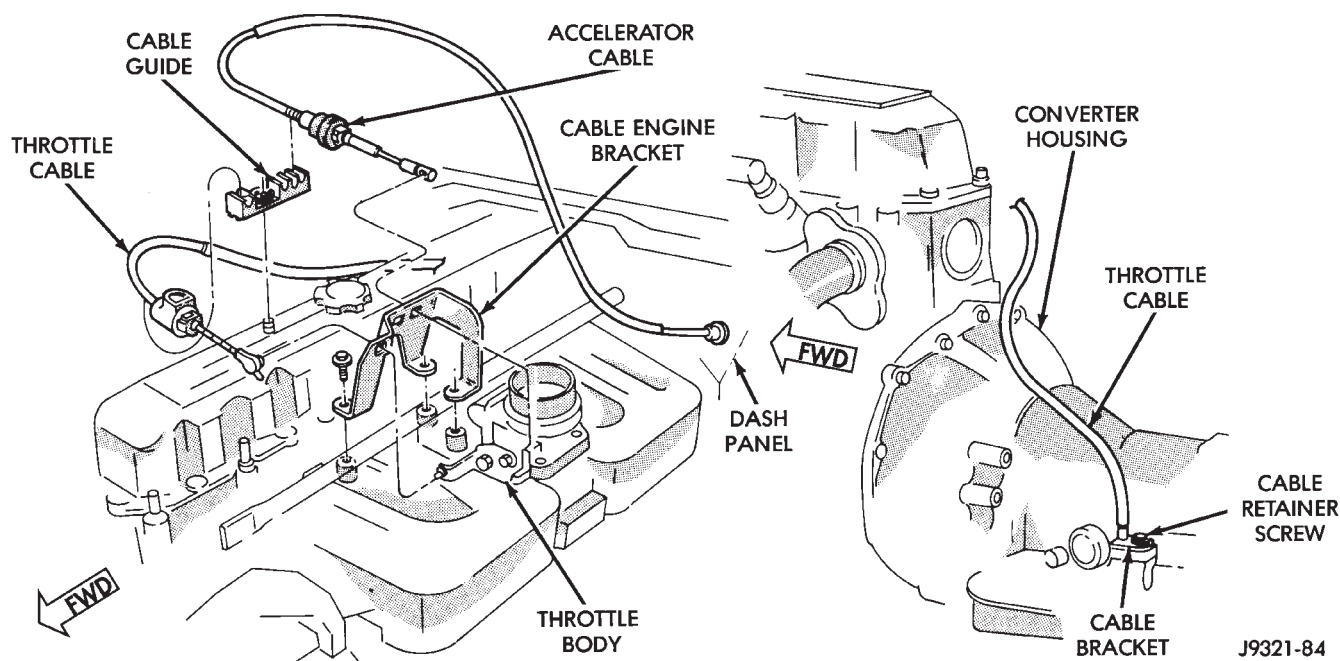
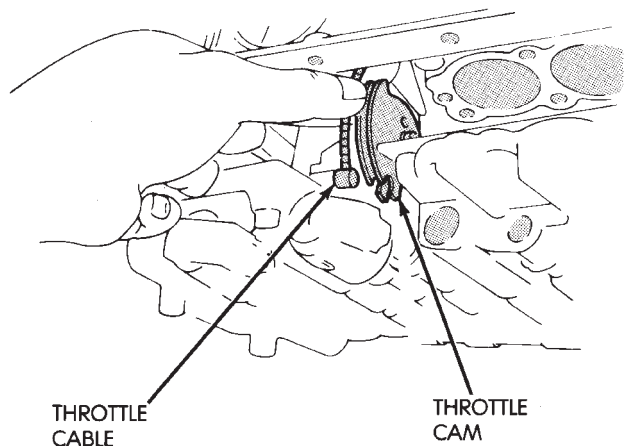

Fig. 41 Transmission Throttle Cable Attachment
Fig. 42 Removing/Installing Transmission Throttle Cable
(1) In engine compartment, disconnect cable from throttle linkage. Then compress cable mounting ears and remove cable from engine bracket (Fig. 41).
(2) Raise vehicle.
(3) Remove transmission oil pan.
(4) Disengage cable from throttle valve cam (Fig. 42).
- (1) Lubricate and install new seal on cable.
- (2) Insert cable in transmission case.
- (3) Attach cable to throttle cam (Fig. 42).